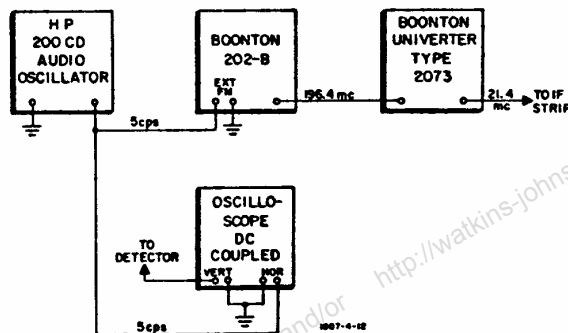

Figure 4-13. Second IF Amplifier-Crystal Filter Alignment Setup
(1) Arrange setup as shown in Figure 4-13 in which sweep generator with low sweep rate (5 cps) is used to